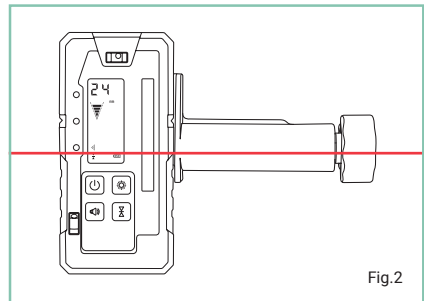
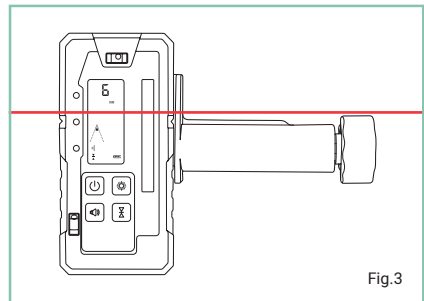

Fig.2
Fig.3
- The direction arrows or level line on the LCD screen will indicate the position of the laser beam. The digital display will indicate a millimetre reading of the adjustment required (Fig.2 & Fig.3).